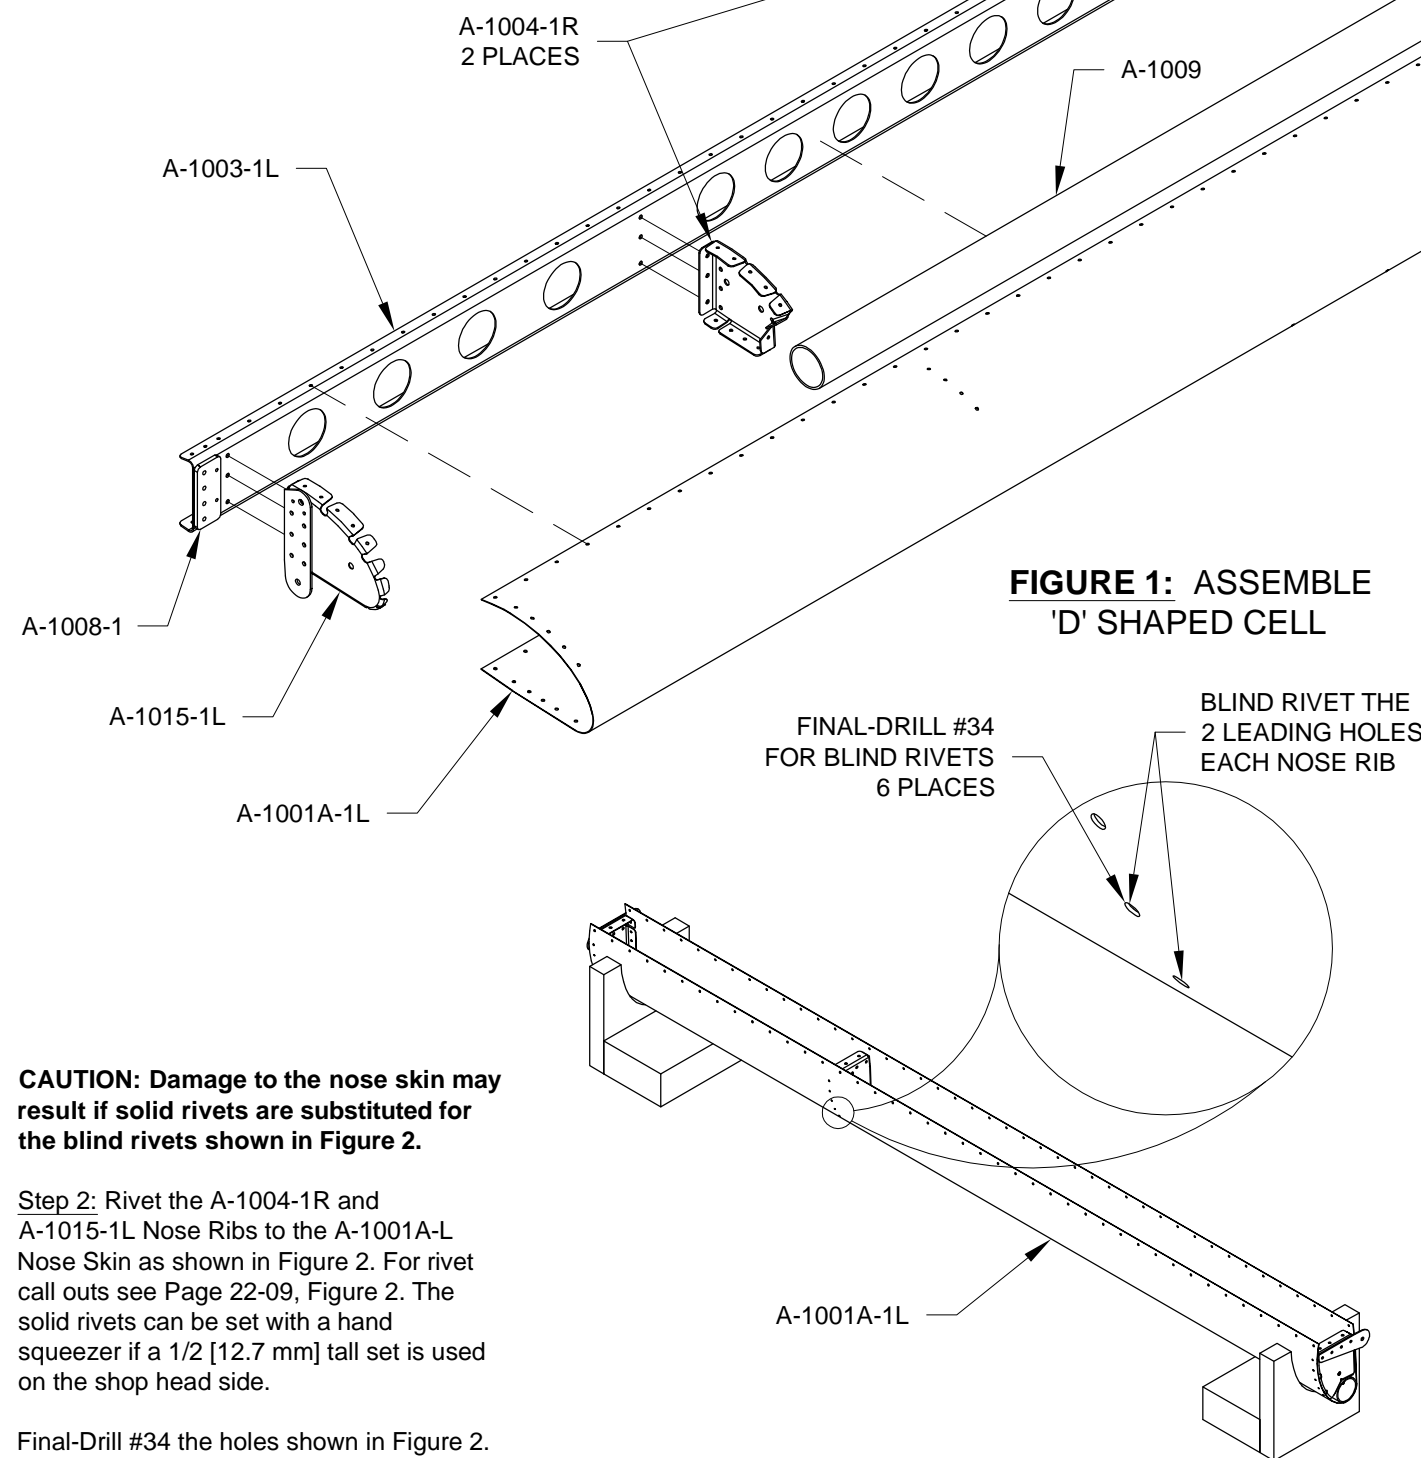

FIGURE 1: ASSEMBLE 'D' SHAPED CELL
Step 3: Cleco the Spar Assembly to the A-1001A-1L Nose Skin and to the A-1004-1R Nose Ribs and A-1015-1L Inboard Nose Rib as shown in Figure 1.